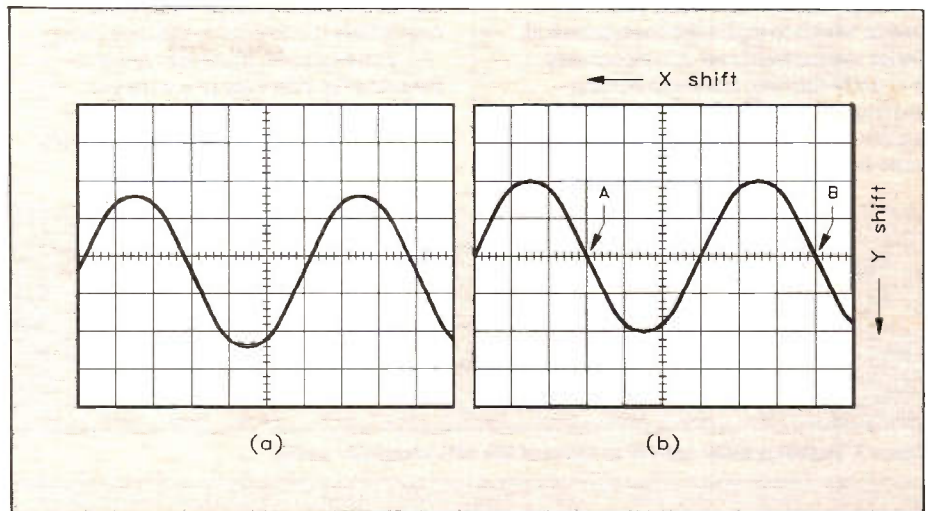

Figure 1(a), sine wave displayed on CRO screen; (b), the same waveform shifted to measure periodic time.
Figure 1(a) shows a sine wave signal displayed on a CRO; the Y gain and the timebase (X) controls have been adjusted to give a display of reasonable amplitude, and of just a few cycles. The triggering has also been set so as to obtain a stable display. This may seem like stating the obvious, but it is this author's experience that students (including, presumably, quite a few amateur hobbyists) often neglect to pay enough attention to proper triggering. I am not getting at scope-using 'Electronics' readers personally when I say this, but as mentioned in Part 1 it does pay to make time to learn how to 'drive' a scope properly.
vertical part, say a negative going slope where it crosses the major X axis, coincide with a main calibration mark. This is shown in Figure 1 (b).